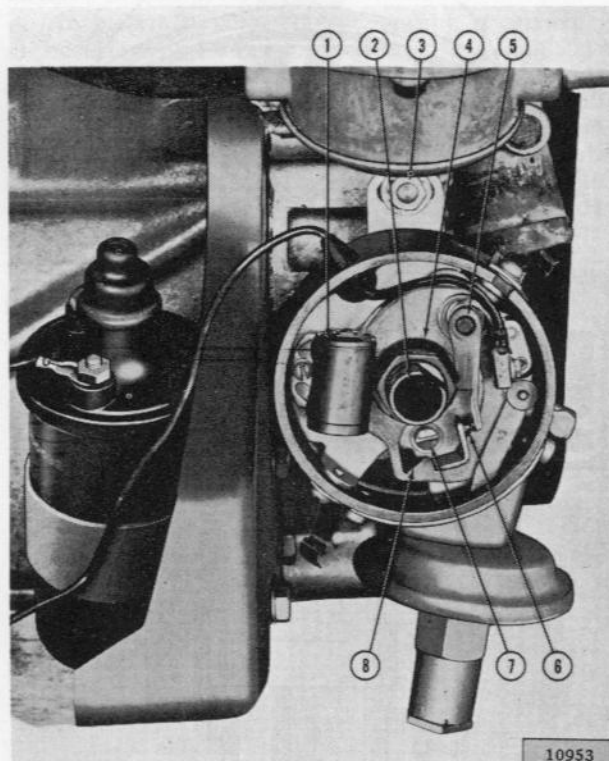

FIG. 64—DISTRIBUTOR
**d.** Examine the distributor points (6, Fig. 64). If they show wear, poor mating, transferred metal, or pitting, then new ones should be installed. Clean the points with a suitable solvent and a stiff-bristled brush.
**f.** The contact gap should be set at .020" [0,508 mm], measured with a wire gauge. Adjustment of the gap is accomplished by loosening the adjusting screw (7) and positioning the stationary contact (8) until correct gap is secured. Be sure that the fiber block on the breaker arm is resting on the highest point on the cam while the adjustment is being made. Recheck the gap after locking the adjustment.
rotor arm points to No. 1 terminal in the distributor cap and the distributor points are just ready to break. Timing may be altered by loosening the distributor adjustment nut (3, Fig. 64)